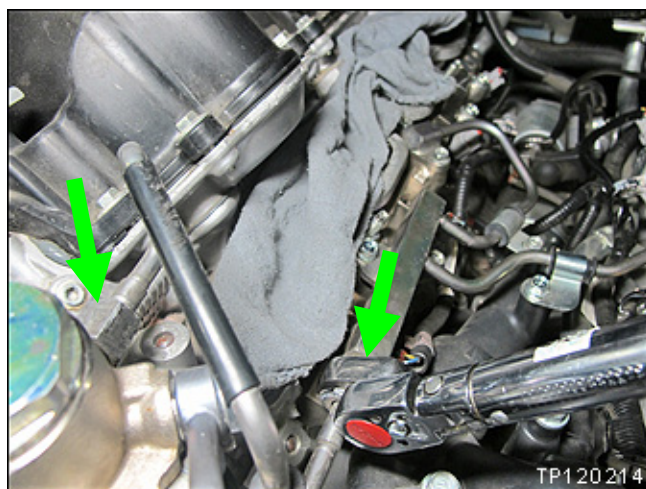

Figure 25m
29. Torque the flange nuts shown in Figure 25m: